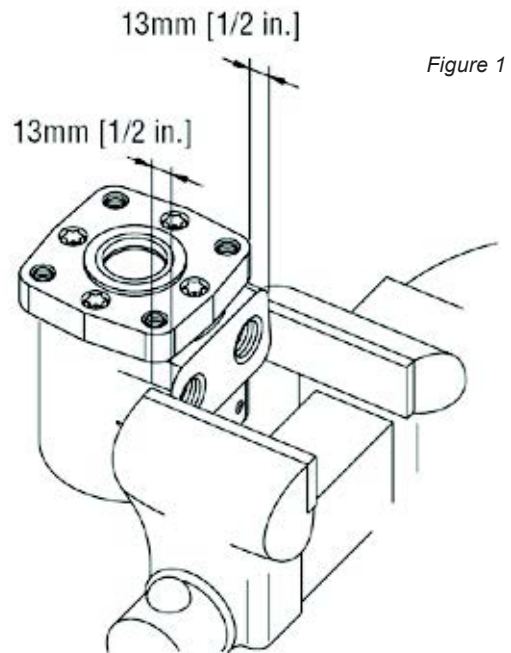

Figure 1
1. Place motor in vice and clamp across edge of flange with output shaft down. When clamping, use protective device on vise such as special soft jaws, pieces of hard rubber or board (see Figure 1). Do not clamp on side of housing. Excessive clamping pressure on side of housing causes distortion.